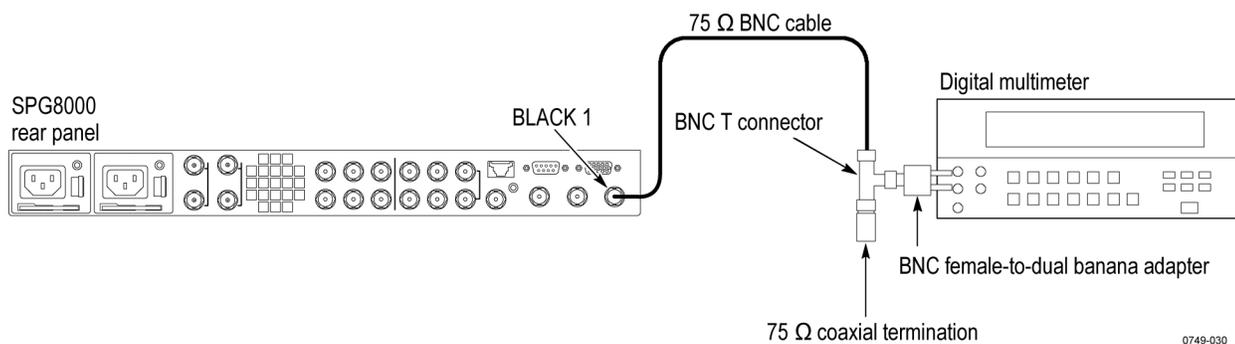

Figure 11: Equipment connections for Genlock/Black adjustments
2. Connect the BLACK 1 output to the multimeter as shown in the following figure. (See Figure 11.)